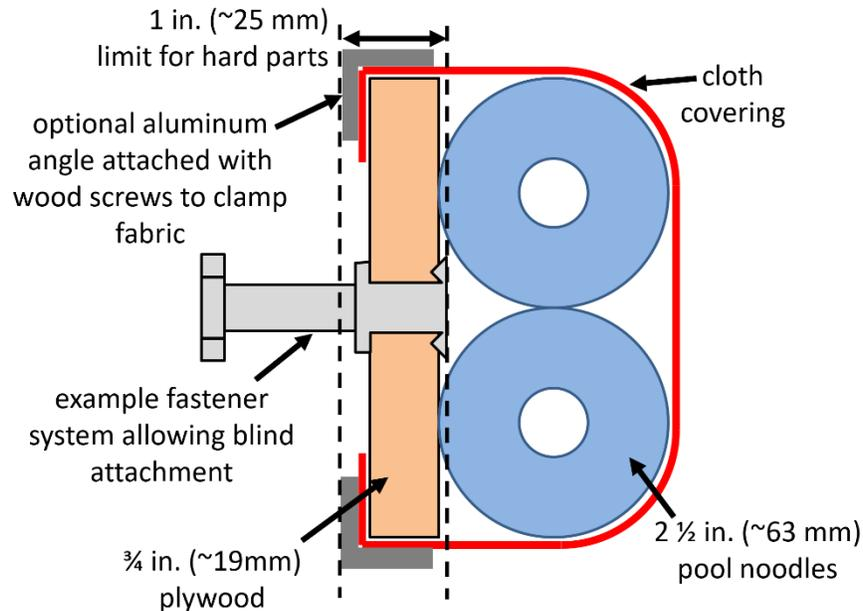

Figure 9-7):
**R901 R408** \*BUMPER construction. BUMPERS must be constructed as follows (see Figure 9-7 is updated to reflect a more common BUMPER fastening system).
Previous Figure 9-7 with less common fastening system highlighted
- C. use a stacked pair of approximately 2 1/2 in. (nominal, ~63 mm) round, petal, or hex “pool noodles” (solid or hollow) as the BUMPER cushion material (see Figure 9-7). All pool noodles used in a BUMPER set (e.g. red set of BUMPERS) may not be modified (with the exception of cutting to length or cutting to facilitate mating pool noodles at the corners as required by R409) or deformed and must be the same diameter, cross section, and density (e.g. all round hollow or all hex solid). Per R409 cushion material may extend up to 2 1/2 in. (~63 mm) beyond the end of the plywood in order to fill a corner (see Figure 9-8). To assist in applying the fabric covering, soft fasteners may be used to attach the pool noodles to the wood backing, so long as the cross section in Figure 9-7 is not significantly altered (e.g. tape compressing the pool noodles).